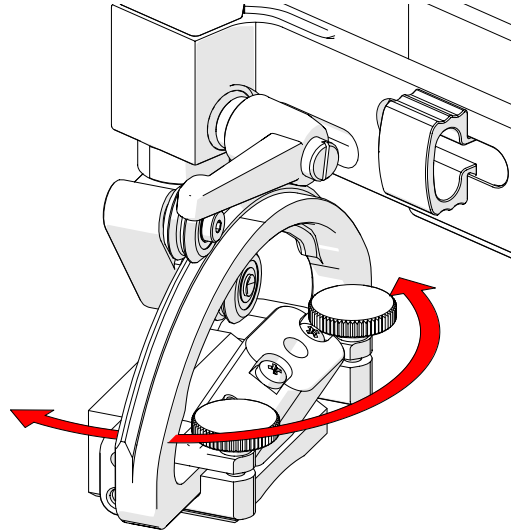

Fig. 216 - Adjust skew angle
2. Rotate the yoke (Up to 90° in either direction) to the angle required (Fig. 216).